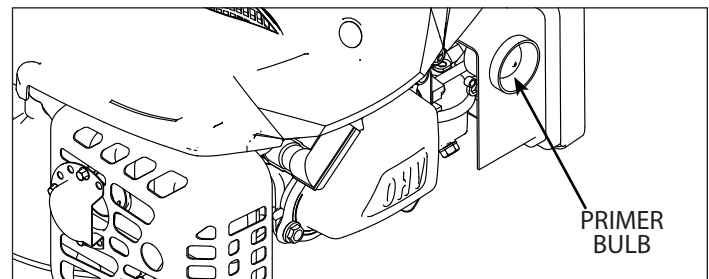

FIGURE 3: Primer Bulb
5. Press primer bulb three times. Let bulb fully recover between each depression. **SEE FIGURE 3**